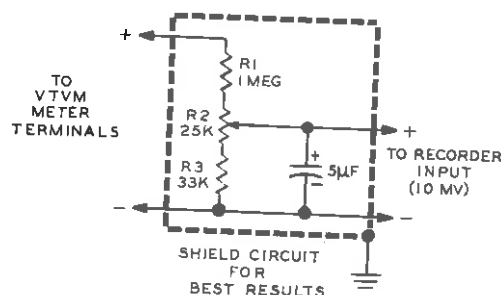

Figure 15
You can permanently record the meter indication of a VTVM using the circuit shown in Figure 15. This circuit couples a portion of the voltage applied to the meter terminals, by the VTVM circuitry, to the input of the Recorder. Thus, any function or voltage within the capability of your VTVM can be recorded. You may wish to permanently mount the circuit, shown in Figure 15, in your VTVM.
1. Construct the circuit shown in Figure 15.